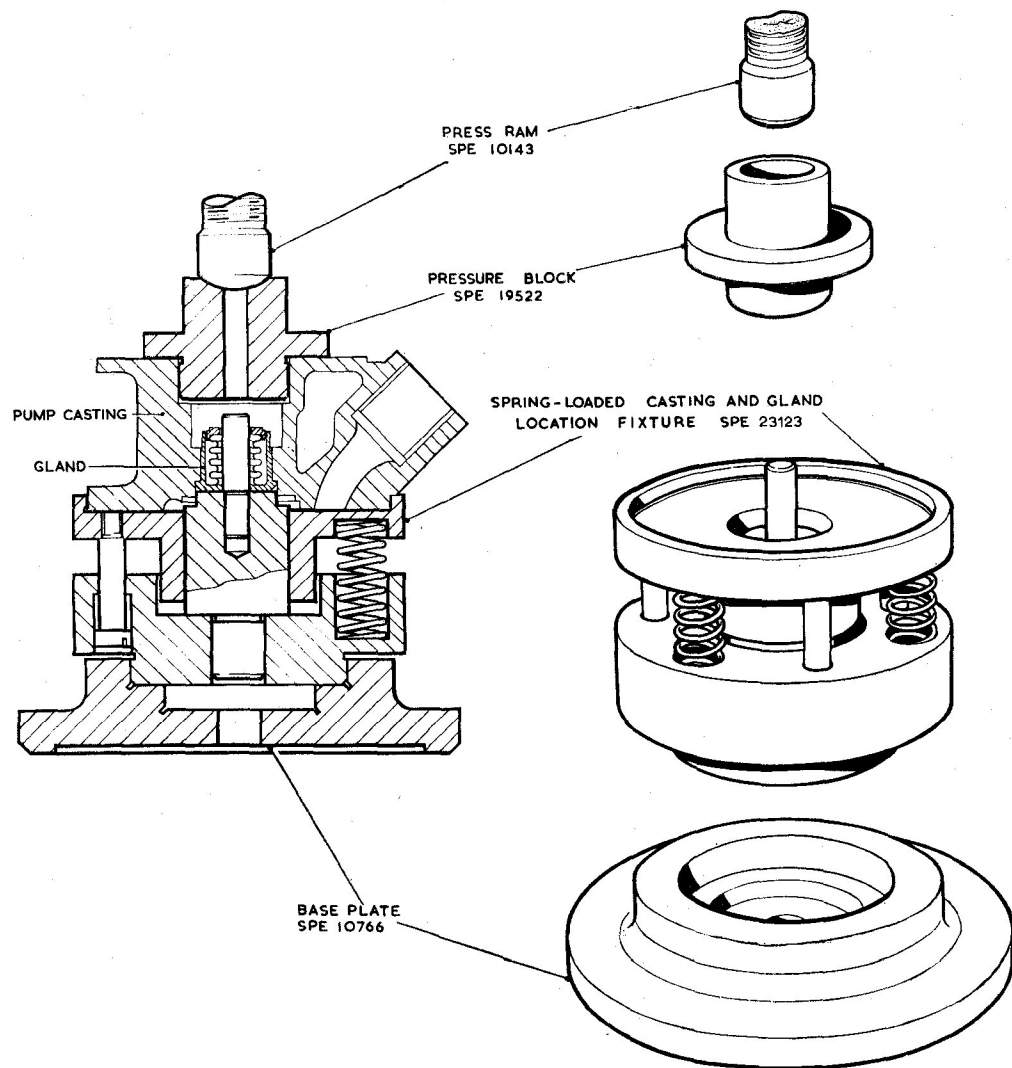

Fig. 4. Assembling the bellows gland
(4) Using the special tools illustrated in Fig. 4, press the new bellows gland fully into the pump body. Remove excess jointing compound.